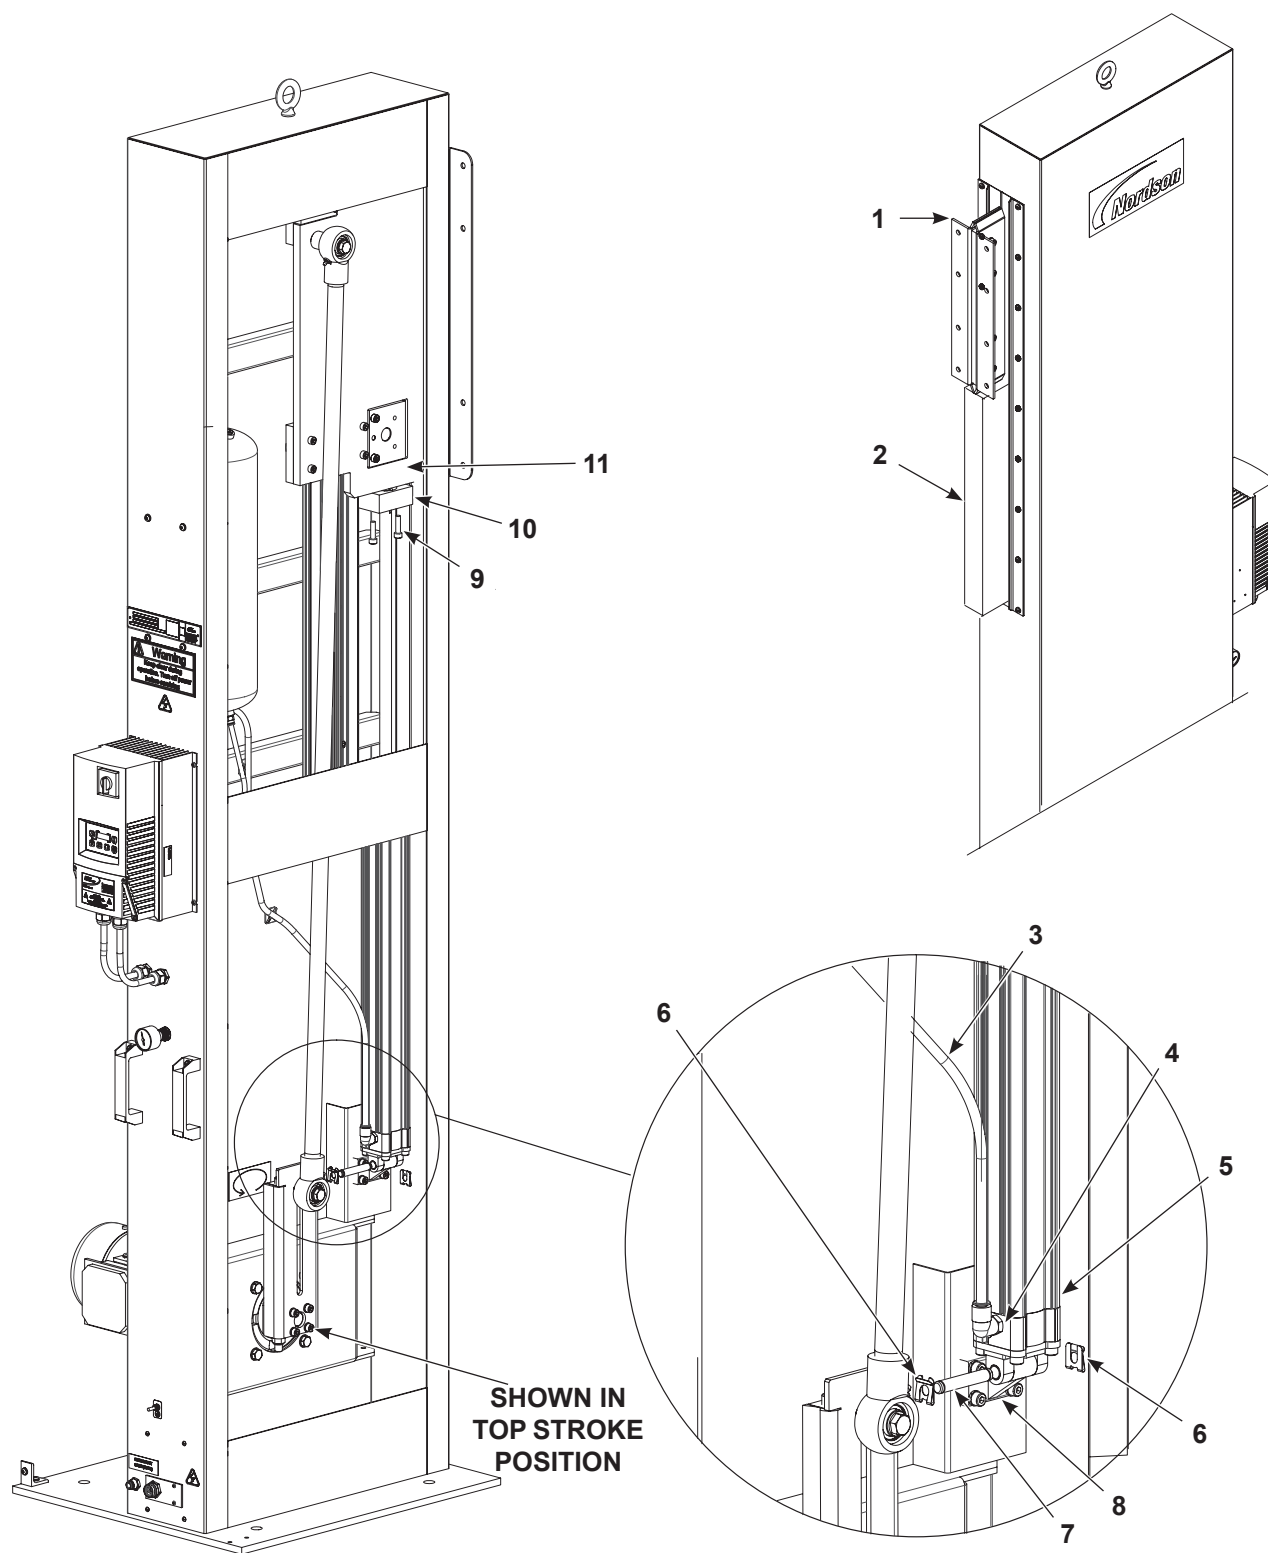

Figure 14 Removing the Air Cylinder
1. See Figure 14. Remove the guns and mounting hardware from the mounting plate bracket (1).
2. Move the gun mounting plate assembly (1) to the top stroke position. Use a block (2) as shown to secure the assembly (1).
4. Disconnect the air line (3) from the air cylinder fitting (4).
5. Remove the clips (6) and pin (7) securing the air cylinder (5) to the bracket (8).
6. Remove the two screws securing the rod end mount (10) to the gun mount plate (11), and collapse the air cylinder rod into the housing. Remove the air cylinder from the oscillator.